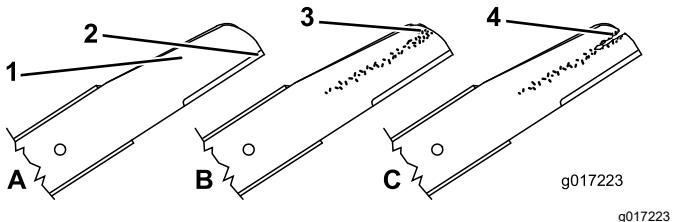
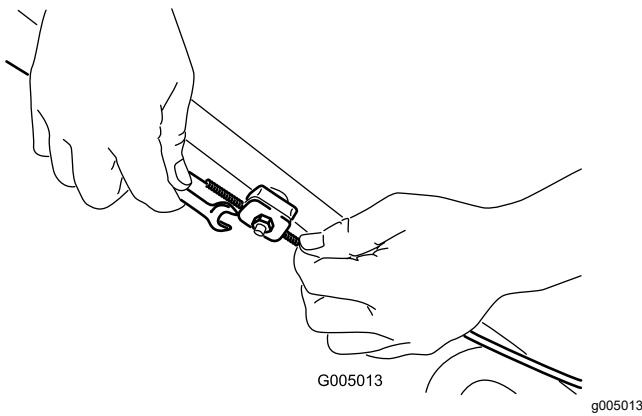

Figure 34
Figure 42
1. Inspect the cutting edges (Figure 34). If the edges are not sharp or have nicks, remove the blades and have them sharpened or replace them.
2. Inspect the blades themselves, especially the curved area (Figure 42). If you notice any damage, wear, or a slot forming in this area (Figure 34), immediately replace them with new blades.
2. Loosen the cable support nut (Figure 42).